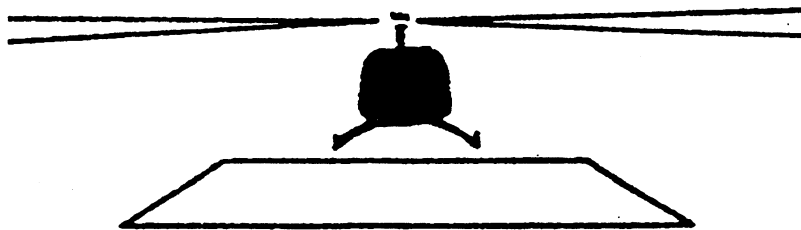

FIGURE 1. CLEAR HELIPAD/AREA OF OPERATIONS
(1) Before a helicopter takeoff or landing, personnel should ensure that the helipad or area of operations is clear of all people, cargo, baggage, or anything that might be blown around by the force of the downdraft. (See figure 1.)